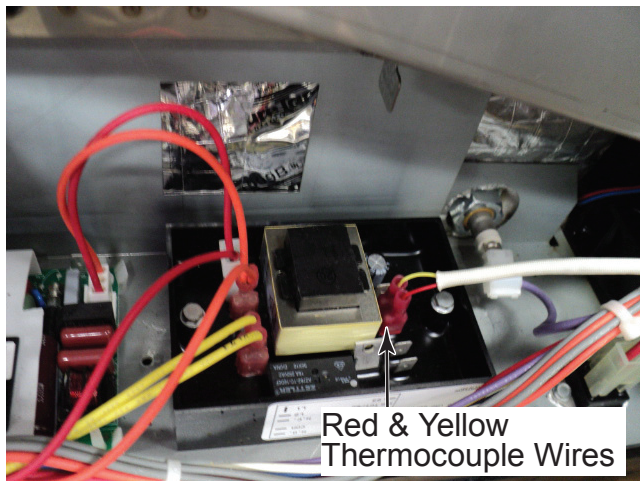

Figure 3
4. Disconnect thermocouple (RTD) red & yellow wire terminals from the thermal limiter (Figure 3).